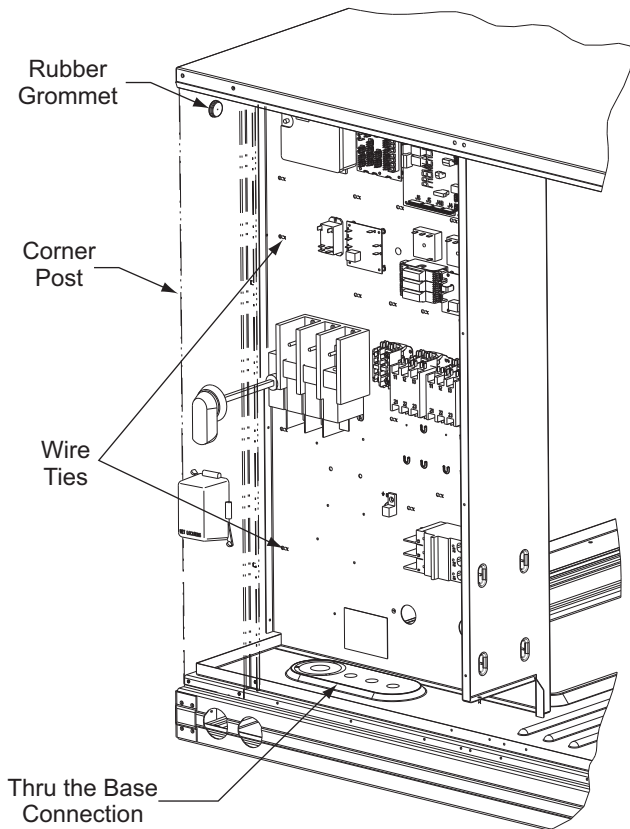

Fig. 32 — Field Control Wiring Raceway
Correctly rated low voltage wire can be routed through the rubber grommet located on the corner post adjacent to the control box access panel. Route wire through the grommet and then route the wire behind the corner post utilizing the factory provided wire ties secured to the control box. This will ensure separation of the field low voltage wire and the high voltage circuit. Route the low voltage wire to the central terminal board. See Fig. 32.
2. Feed wires through the raceway built into the corner post (see Fig. 32) to the 24-v barrier located on the left side of the control box. The raceway provides the UL-required clearance between high-voltage and low-voltage wiring.